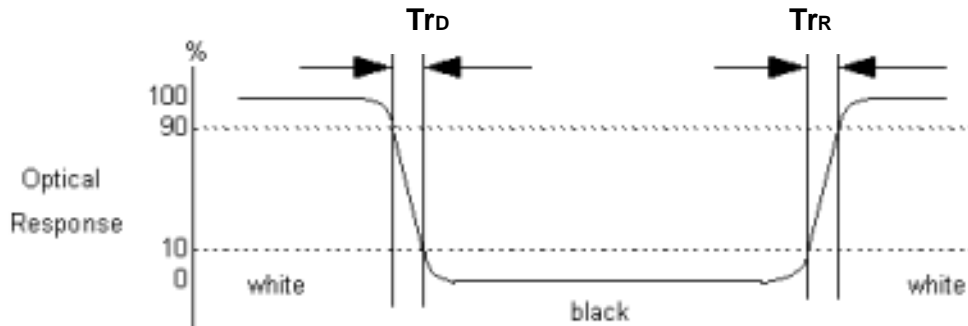

**Fig.4-2 Optical measurement point**
2. Surface luminance is luminance value at point 1 across the LCD surface 50cm from the surface with all pixels displaying white. From more information see Fig. 4-2. When  $V_{DDB} = 24V$ ,  $I_{DDB} = 7.3A$ .